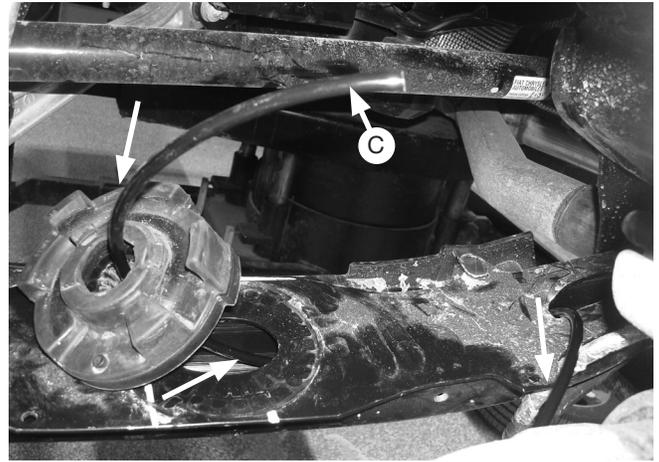

Fig. 17
16. Cut the air line (C) in two and insert the air line into the lower spring seat, through the lower spring link and out the slot on top of the spring link close to the inner pivot point (fig. 17).